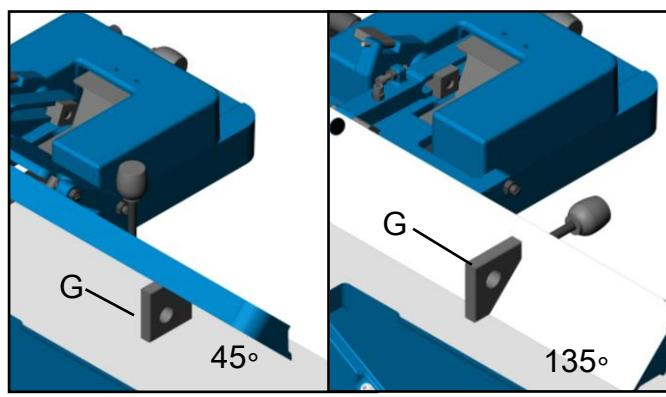

Fig. 12
1. Loosen the lock knob (D). Move the stop plate (B) out of the way and position the fence at the 45 ° or 135° angles. Make sure the fence sits against on the correct stop bolt.
2. Tighten the lock knob (D)
3. Place an angle measuring device on the table Fig. 12 and against the fence to confirm 45 ° & 135° setting.
4. To adjust, loosen the lock nut (J) or (K) , turn the stop bolt (H) or (I) until a 45 ° or 135° angle is obtained.
5. Tighten the lock nut (J) or (K).